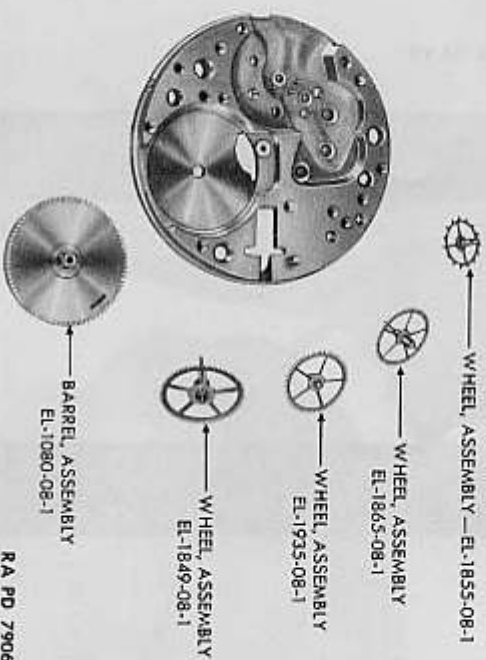

Figure 140 — Elgin Wrist Watch — Train Wheels and Barrel Assembly Removed
m. Remove Train Wheels and Barrel Assemblies (fig. 140). Remove center, third, fourth, and escape wheels, and barrel assembly.
**c. Replace Train Wheels and Barrel (fig. 140).** Place mainspring barrel assembly on pillar plate. Replace train wheels in this order: escape, fourth, third, and center wheels.